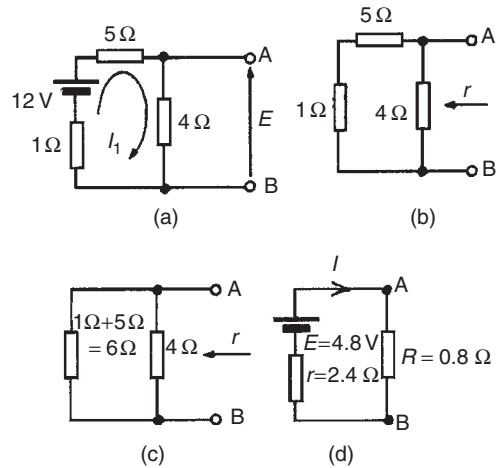

Figure 13.40
- (i) The  $0.8 \Omega$  resistor is removed from the circuit as shown in Fig. 13.40(a).
P.d. across  $4 \Omega$  resistor  $= 4I_1 = (4)(1.2) = 4.8 \text{ V}$ . Hence p.d. across AB, i.e. the open-circuit voltage across AB,  $E = 4.8 \text{ V}$
- (iii) Removing the source of e.m.f. gives the circuit shown in Fig. 13.40(b). The equivalent circuit of Fig. 13.40(b) is shown in Fig. 13.40(c), from which, resistance
- (iv) The equivalent Thévenin's circuit is shown in Fig. 13.40(d), from which, current